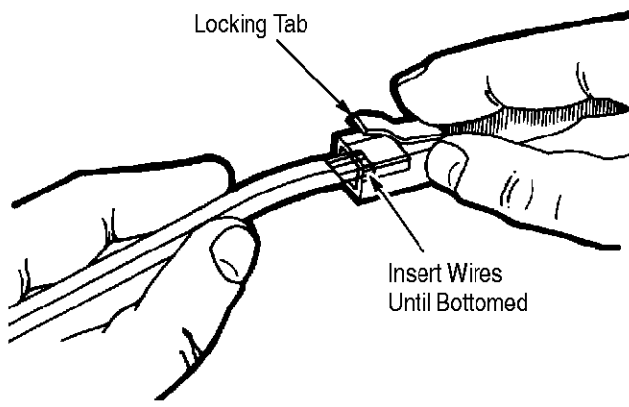

Figure 5
5. Insert conductors into wire slots in connector until wires fully bottom. Be sure to maintain proper conductor polarity for application. See Figure 5.